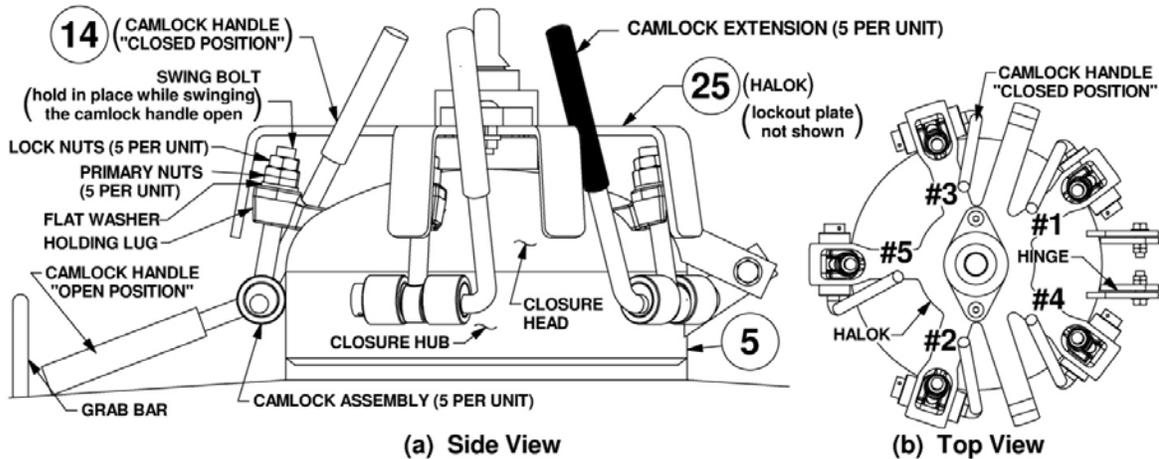

Figure 8.1 – Closure Assembly
Clean debris off all components. Replace all missing and defective components. Any camlock, swing bolt, nut, or hinge that show signs of damage, corrosion, wear, or does not swing freely must be repaired or replaced prior to re-pressurizing the blast vessel. The camlock handles must be installed into the cam lugs as shown in Figure 8.1(b) so there is no interference with closure head handle or hinges, and to insure proper operation of the closure Halok (#25). The torque on the camlock assembly nuts must be properly adjusted. See Section 8.5 for camlock adjustment.
- Following the numbered sequence shown in Figure 8.1 tighten each bolt in three steps.